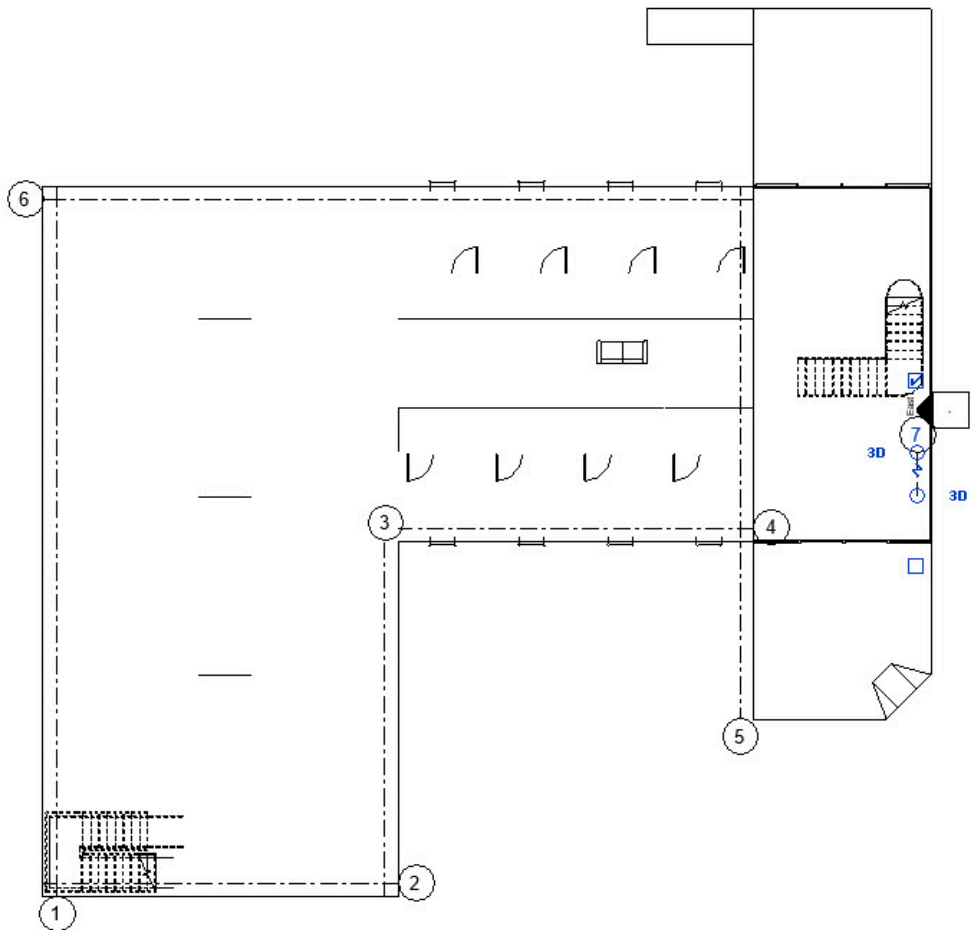

Figure 16.2 Seven placed grids using the pick lines tool shown in Level 1 floor plan view
5. Select the 7 exterior walls as shown in Figure 16.2 so grids lines are placed on the interior spaces